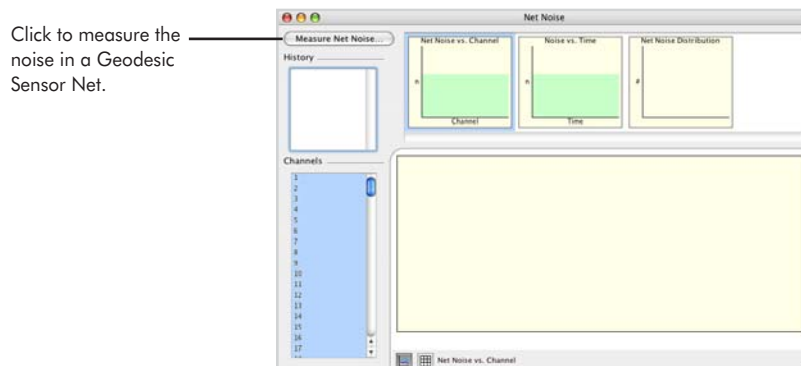

Figure 4-54. Net Noise window
- 5 As the signals are displayed onscreen, choose **Panels > Net Noise**, and click the Measure Net Noise button in the Net Noise window (Figure 4-54); a progress bar appears during the measurement.